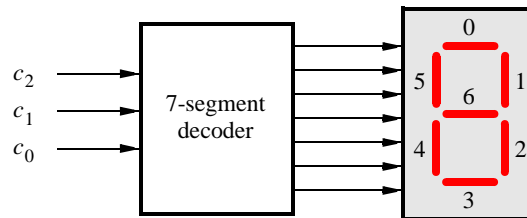

Figure 8. A 7-segment decoder.
Figure 8 shows a *7-segment* decoder module that has the three-bit input  $c_2c_1c_0$ . This decoder produces seven outputs that are used to display a character on a 7-segment display. Table 1 lists the characters that should be displayed for each valuation of  $c_2c_1c_0$ . To keep the design simple, only four characters are included in the table (plus the ‘blank’ character, which is selected for codes 100 – 111).
2. Create a Verilog module for the 7-segment decoder. Connect the  $c_2c_1c_0$  inputs to switches  $SW_{2-0}$ , and connect the outputs of the decoder to the *HEX0* display on the DE2-series board. The segments in this display are called  $HEX0_0, HEX0_1, \dots, HEX0_6$ , corresponding to Figure 8. You should declare the 7-bit port